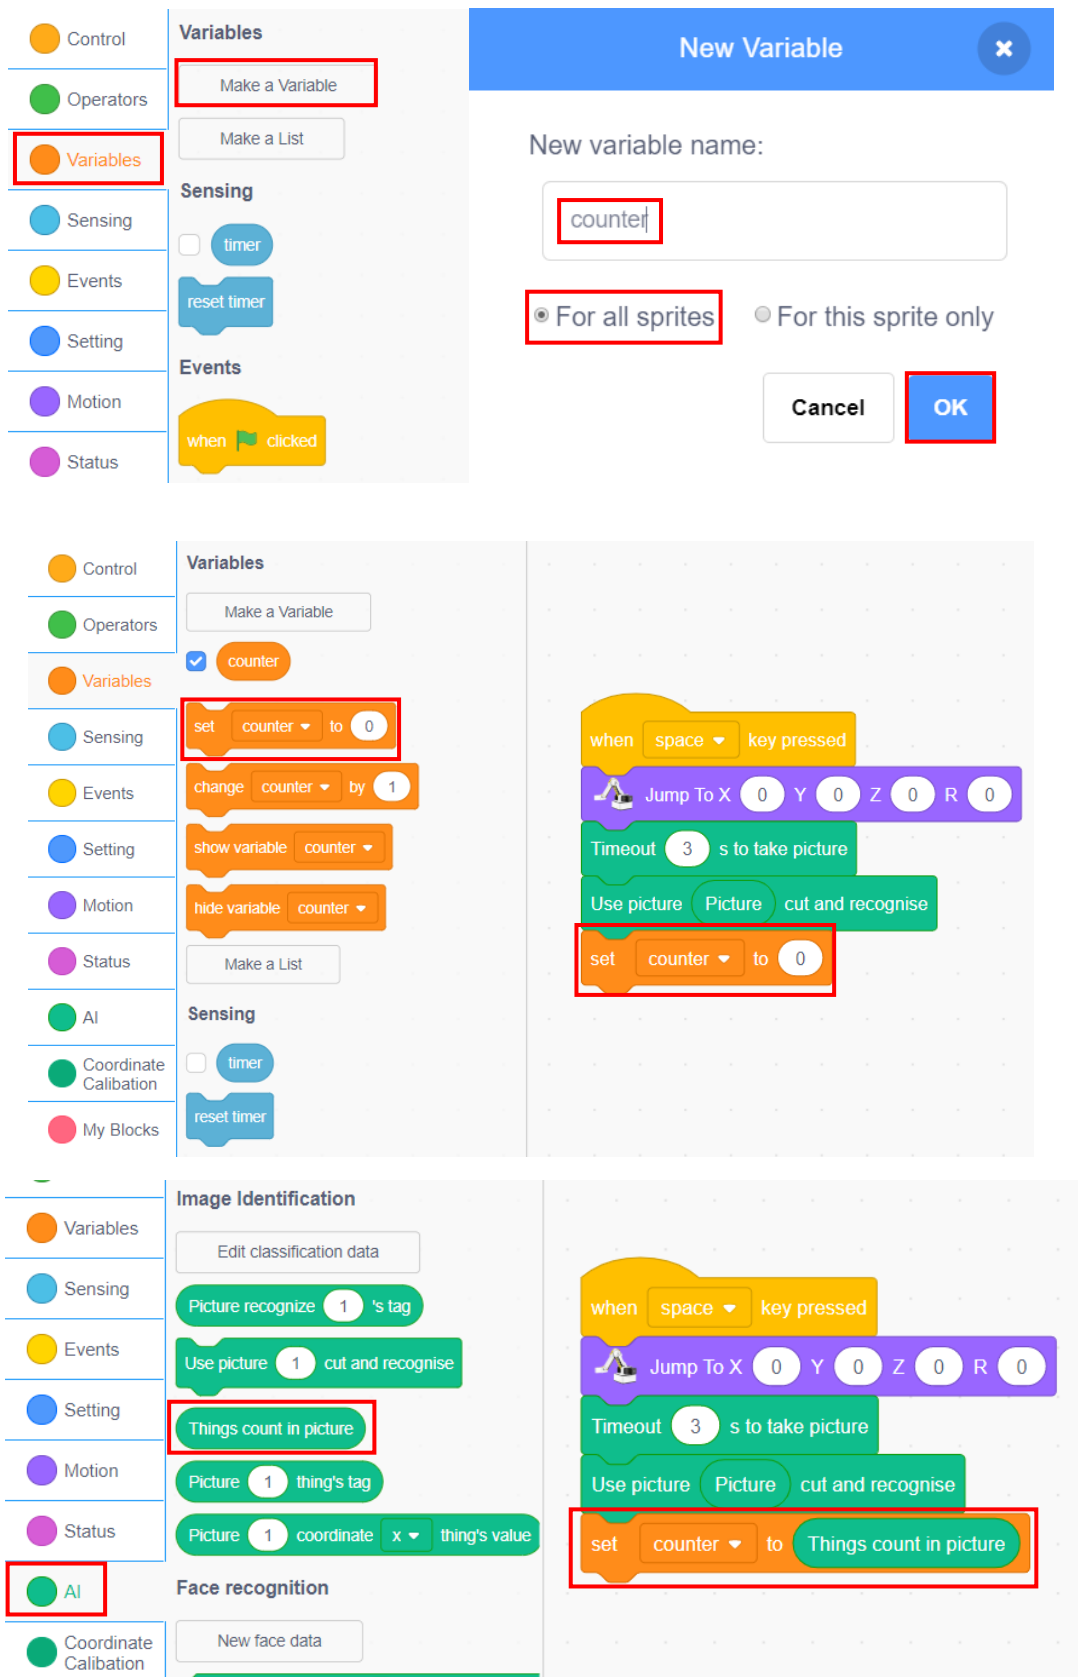

Figure 4.24 Defining the variable *counter*
Step 3: Define the variable *counter* to store the quantity of the items with image segmentation, as shown in Figure 4.24.